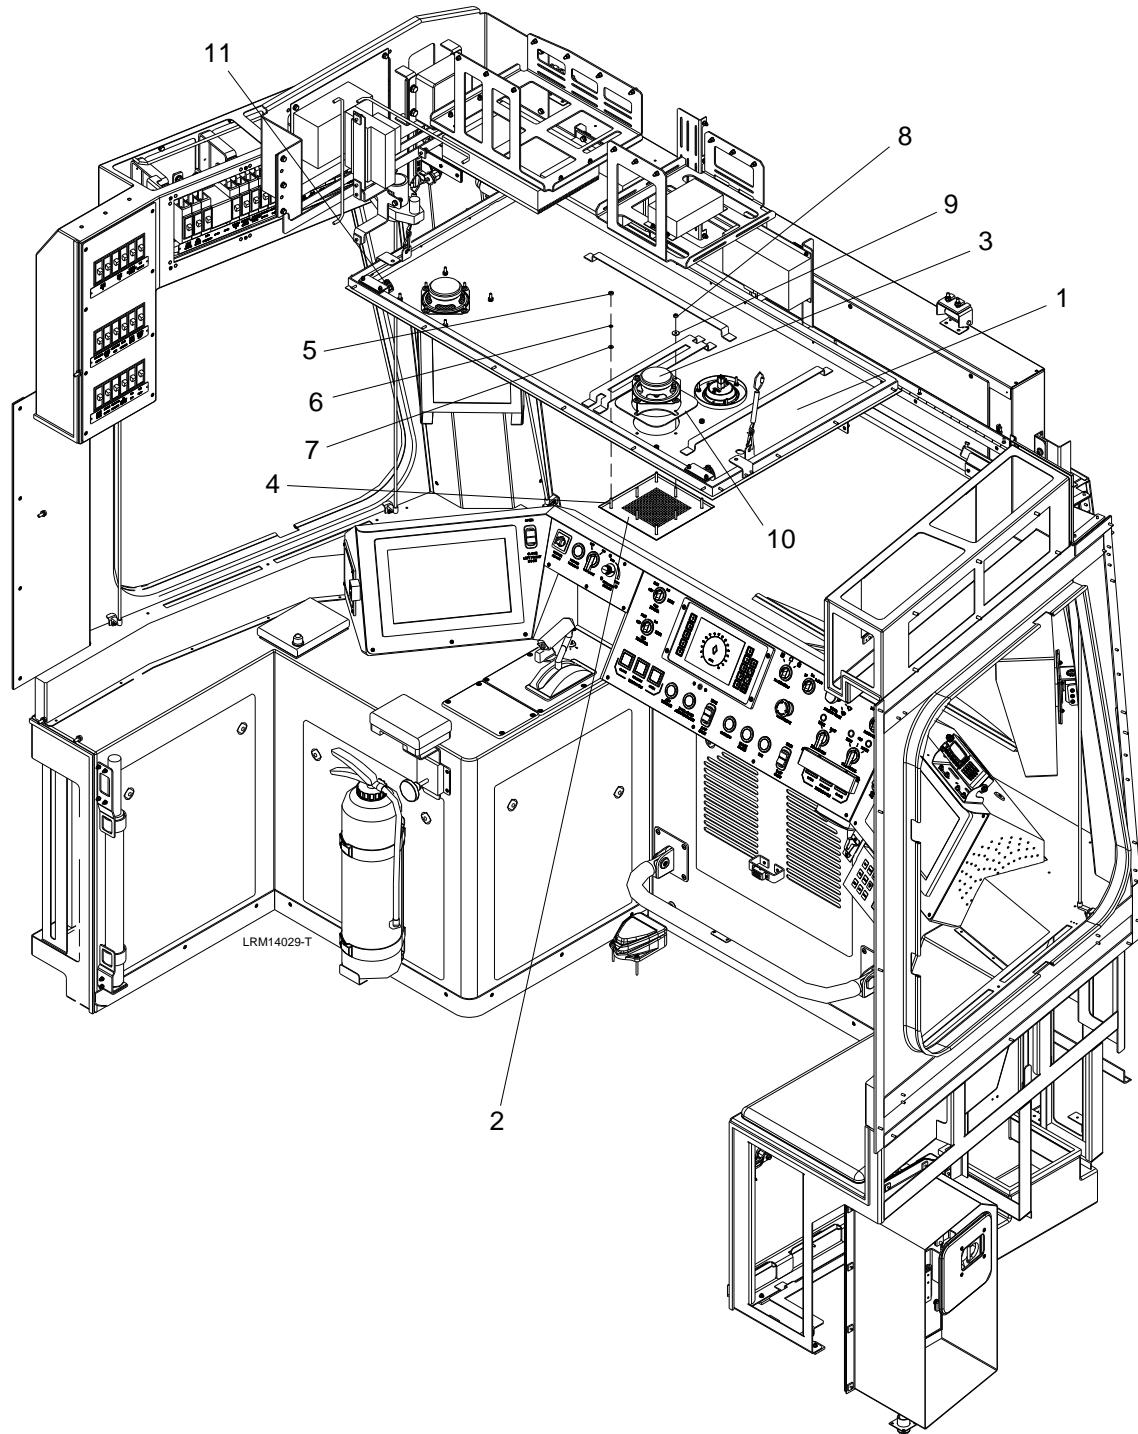

Figure 7-22: Cab 4" Speaker
1. Unlock the two locks (11) and lower the cab ceiling panel (1) to access the cab speaker hardware and disconnect the electrical connection. See Figure 7-22.
2. Remove the four M6 hexagon nuts (5), M6 lock washers (6), M6 plain washers (7), and M6 x 20 screws (4).
3. Remove the speaker grill (2).
4. Remove the four lock nuts (8), and plain washers (9).
5. Remove the speaker (3).
6. Remove the speaker gasket (10).